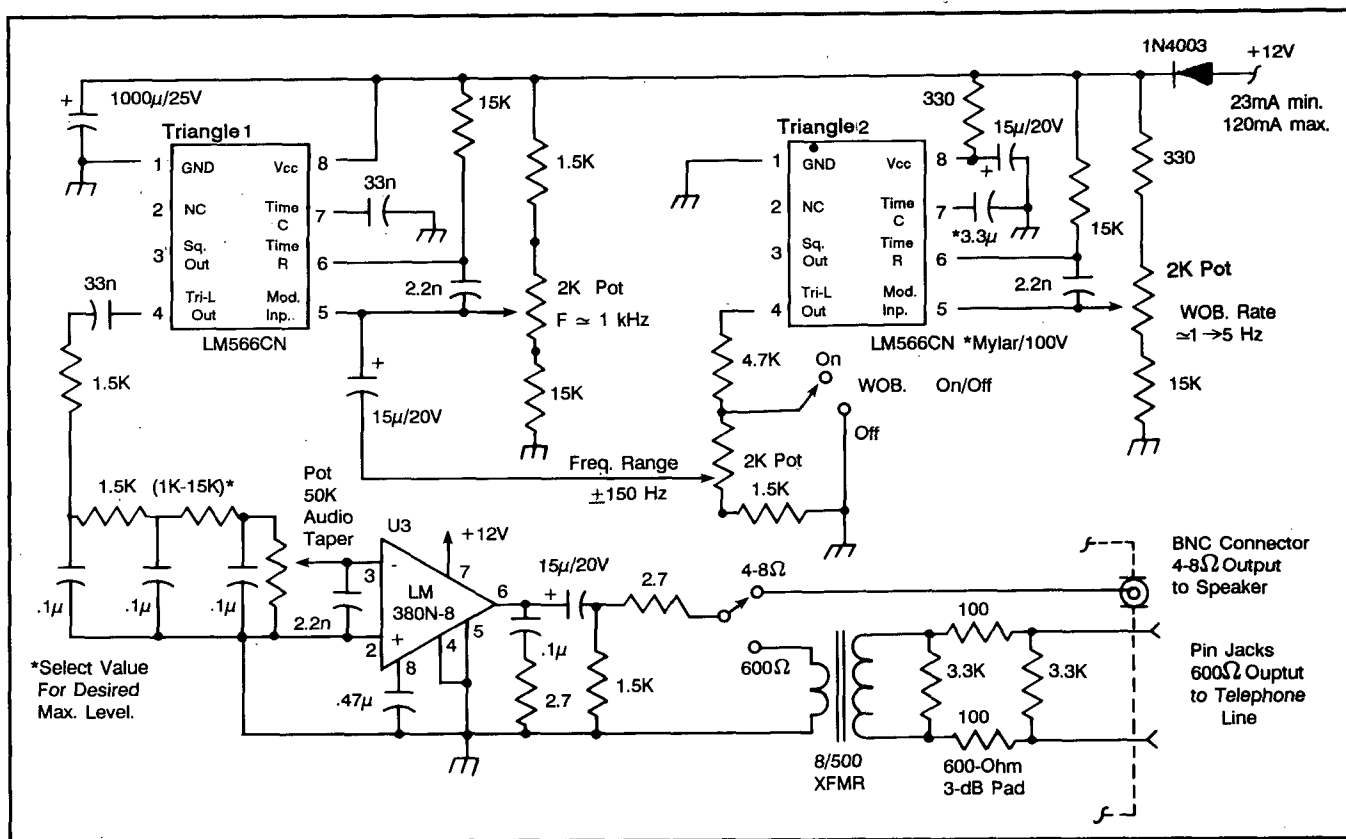
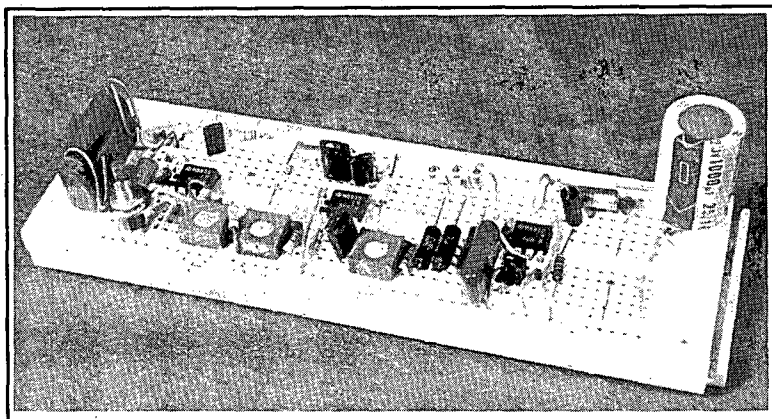
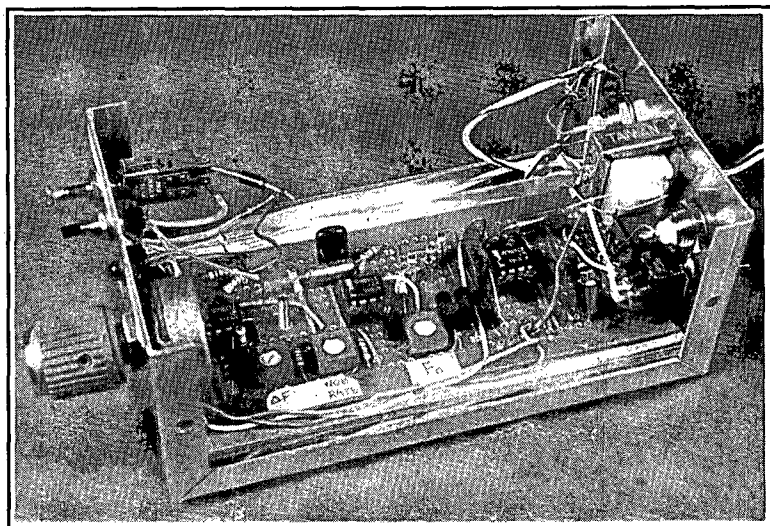

Figure 1. Circuit Diagram of 1-kHz Wobbled Tone Generator.
Figure 2. Wobbulator Components Assembled on the Global EXP-300 Poke Board.
Figure 3. Wobbulator Circuit Installed in an Aluminum Box.
Figure 1 shows the circuit diagram of the 1-kHz wobbled tone generator. The active components consist of three integrated circuits (IC's), two of which are the National Semiconductor Voltage Controlled Oscillator, LM566CN (U1 and U2). The third IC (U3) is the National Semiconductor LM380N-8 Audio Power Amplifier. The availability of these three inexpensive IC's through many distributors makes a wobbled tone generator suitable for analog-speech testing purposes convenient and easy to design and assemble. For example, the 8-pin Dual-in-Line Package (DIP) LM566CN and LM380N-8 IC's are available from Digi-Key⁴ or Jameco Electronics⁵.
First, the circuit of Figure 1 is assembled on a "poke board." The poke board is so called because it contains many interconnected finger-grip contacts arranged on a 0.1-inch grid into which the component leads can be poked, thus eliminating the need for soldering. Because the components can be easily removed from the poke board and replaced with components of different values, the circuit is easily modified. The components are then transferred to a special printed circuit board which is an exact duplicate of the poke board, except that the PC board has solder tracks on the underside. After all the components are installed on the PC board, they are soldered to the PC board tracks. In this way, the final circuit is quickly and conveniently moved from the poke board to the PC board without the usual fuss associated with building a PC board.
The Experimenter (TM) EXP-300 Solderless Breadboarding Socket (poke board) and the EXP-300PC (PC board duplicate of the EXP-300) are both available from Global Specialties.⁸ Figure 2 is a photograph showing the wobulator components assembled on the Global EXP-300 poke board. Plastic-insulated #24 solid wire was used to interconnect the resistors and capacitors on the poke board. After the poke board assembly was completed and tested, the same wires and components were transferred to the EXP-300PC and soldered together to complete the final assembly. After all the wires and components are transferred to the EXP-300PC, the poke board can be used for breadboarding other circuits.
Installation of Parts. After obtaining all of the necessary resistors, capacitors and IC's from either Jameco, Digi-Key or Mouser, and after obtaining the EXP-300 breadboard and an EXP-300PC PC board from Global Specialties, the assembly of the wobbulator circuit may begin. First, insert the three IC's into the poke board. The resistors and capacitors are then installed in accordance with the schematic diagram shown in Figure 1. Figure 2 shows what the assembly will look like after most of the components are installed on the poke board. The 50-kohm audio-taper potentiometer and the toggle switches will be mounted on the enclosure walls. Temporarily connect the audio-taper pot and switches to the poke-board circuit with insulated wires, and then apply power to the wobbulator circuit to make it operational. After the circuit is operating as desired, transfer all the parts to the EXP-300PC PC board and then install the PC board in a suitable box. Use a sheet of cardboard to serve as a buffer between the bottom of the PC board and the aluminum box to prevent
shorting the PC tracks. Punch two holes in the PC board, the cardboard and the bottom of the box, and use two 4-40 machine screws to hold the PC board and cardboard in place. Install 8-pin I-C sockets on the PC board before transferring the IC's from the poke board. Figure 3 shows the wobulator circuit installed in a Bud aluminum box.
Signal Output Connectors. In the fully-assembled wobulator shown in Figure 3, two BNC connectors were used for the 600-ohm and 4/8-ohm outputs, with a toggle switch for selecting either output. However, after the wobulator assembly was completed, it was decided that the 600-ohm output should be completely isolated from ground instead of being grounded at one end. Although the schematic diagram indicates this improvement, the assembly in the box was not changed before the photograph was taken. It is recommended that the 600-ohm output be wired as shown in the schematic diagram of Figure 1. Two pin jacks mounted on the rear of the case will allow convenient connection to a telephone line or a similar circuit requiring a ground-isolated signal source.